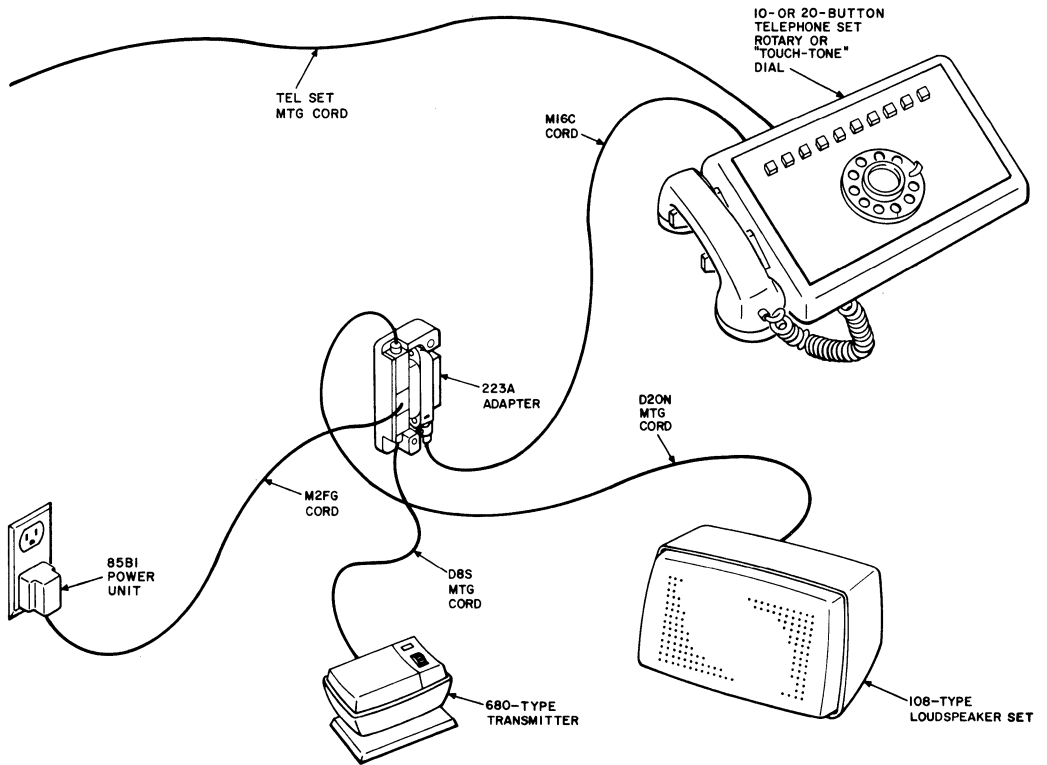

Fig. 1—Speakerphone Arrangement, 10- or 20-Button Telephone Set
**2.07** Power can be provided by making connections as shown in Fig. 1 and 2.